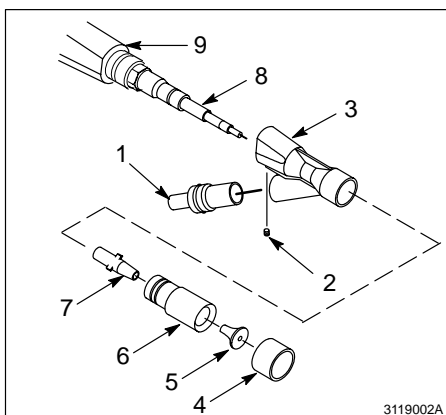

Fig. 2
5. See Figure 2. Remove the hose adapter (1) from the powder inlet body (3).
6. Loosen the setscrew (2) in the underside of the powder inlet body.
7. Remove the powder inlet body, nozzle parts (4, 5, 6), and wear sleeve (7) from the resistor probe (8) and extension (9).